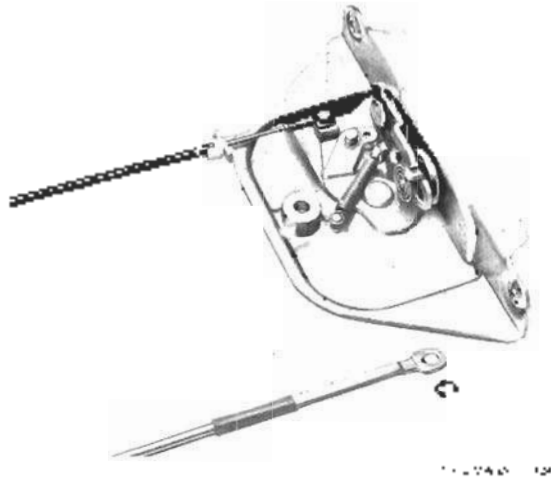

Fig. 5-50. E-clip and connecting rod removed
3. If necessary, the connecting rod(s) and cable can be removed from the center lock by prying off the E-clips as indicated in Fig. 5-50.